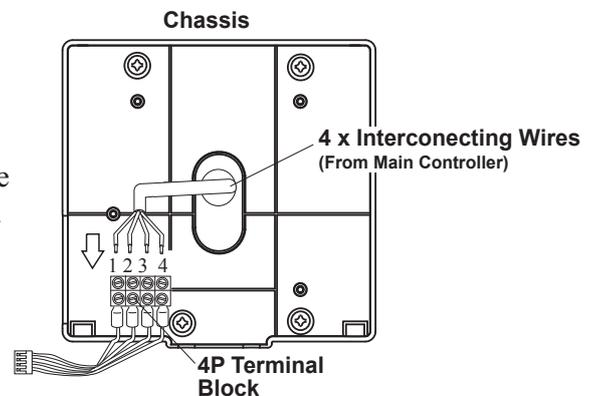

Fig.3-21 Interconnecting Wires Connection in Sub Controller
4. Cut 4 interconnecting wires from main controller to a workable length. Strip 3/16" insulation off the wires and connect them to the 4P terminal block. Terminal number for each wire should be matched to the terminal number in the main controller. **(Fig.3-21)**